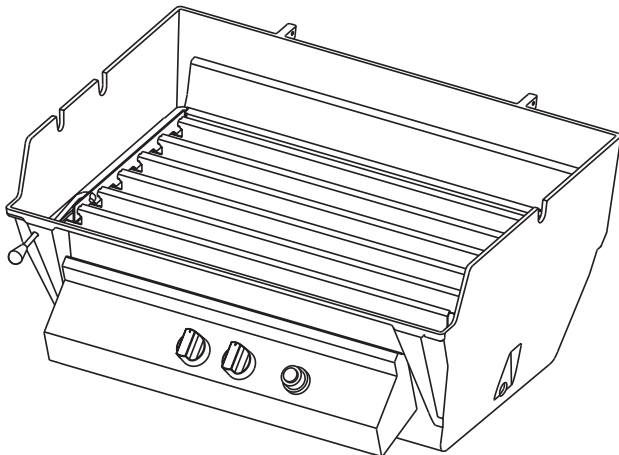

Figure 5
15. Installation of smoker shutter is completed. Refer to Figure 5.